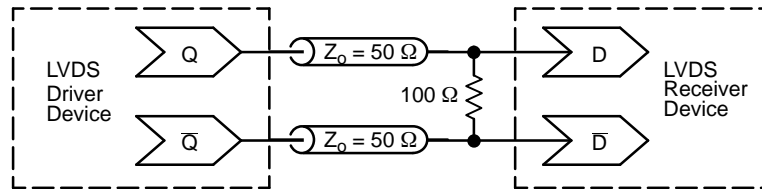

Figure 14. Typical LVDS Termination for Output Driver and Device Evaluation
5. LVDS outputs require $100\ \Omega$ receiver termination resistor between diff. pair. See Figure 14.